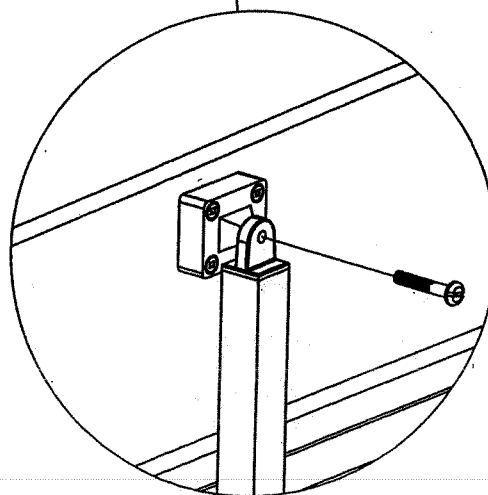

FIGURE 8
- A. Locate (2) Side Arm Assemblies.
- B. Unscrew Side Hinge Screw. Mount the Side Arm Assembly as shown in Fig. 8 and reinsert the Side Hinge Screw to attach the Side Arm Assembly.